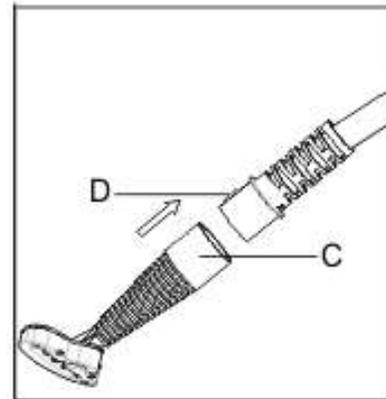

Fig. 5
2. To attach the steam diffuser, grasp steam diffuser in one hand and the hose in the other. Depress the locking button on the hose end until the locking button engages the hole in the steam diffuser. A slight rotation of the steam diffuser may help engage the locking button. (See fig. 5)